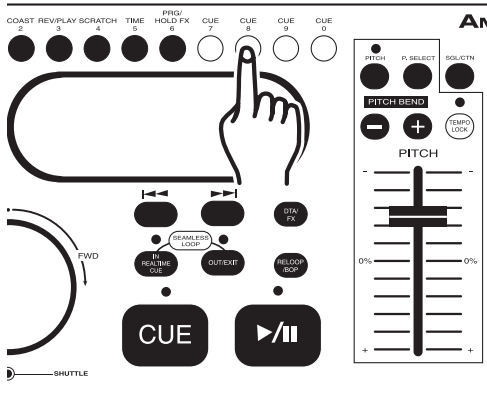

Figure 22
- 2) At this point pressing any one of the four CUE BUTTONS (6) will store your cue point into memory (Figure 22), and the yellow Cue Memory LED will shut off.